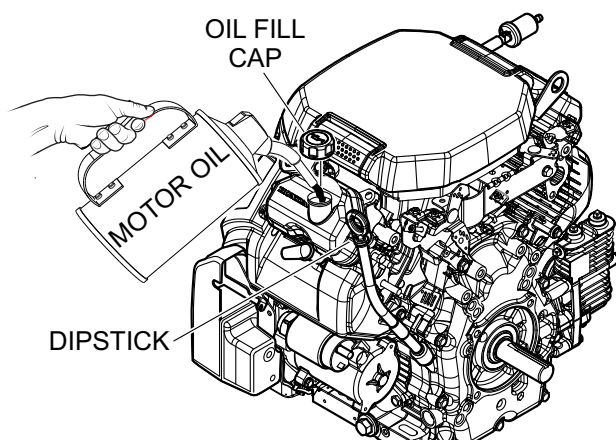

Figure 6. Engine Oil Dipstick Removal
2. Remove the dipstick from its holder (Figure 6) and wipe it clean.
4. If the oil level is low, remove the oil fill cap (Figure 6) and fill the engine crankcase with lubricating oil through the oil filler hole. **DO NOT** overfill.